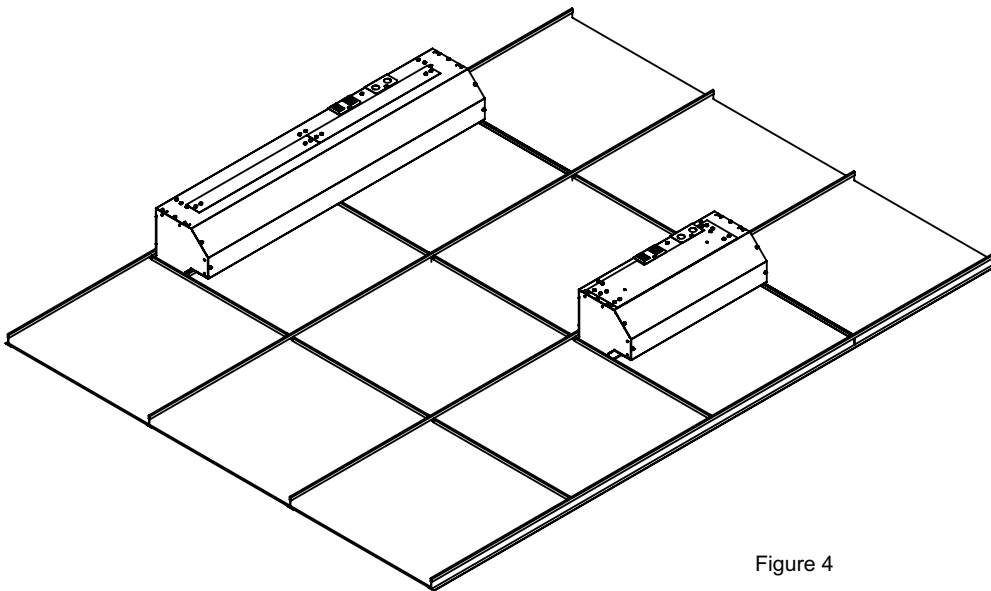

Figure 4
2. With the power off, install the lamps (Figure 4). Make sure they are firmly seated in their sockets. Note: The sockets' locking tabs will snap into the indentations on the base of the lamp.